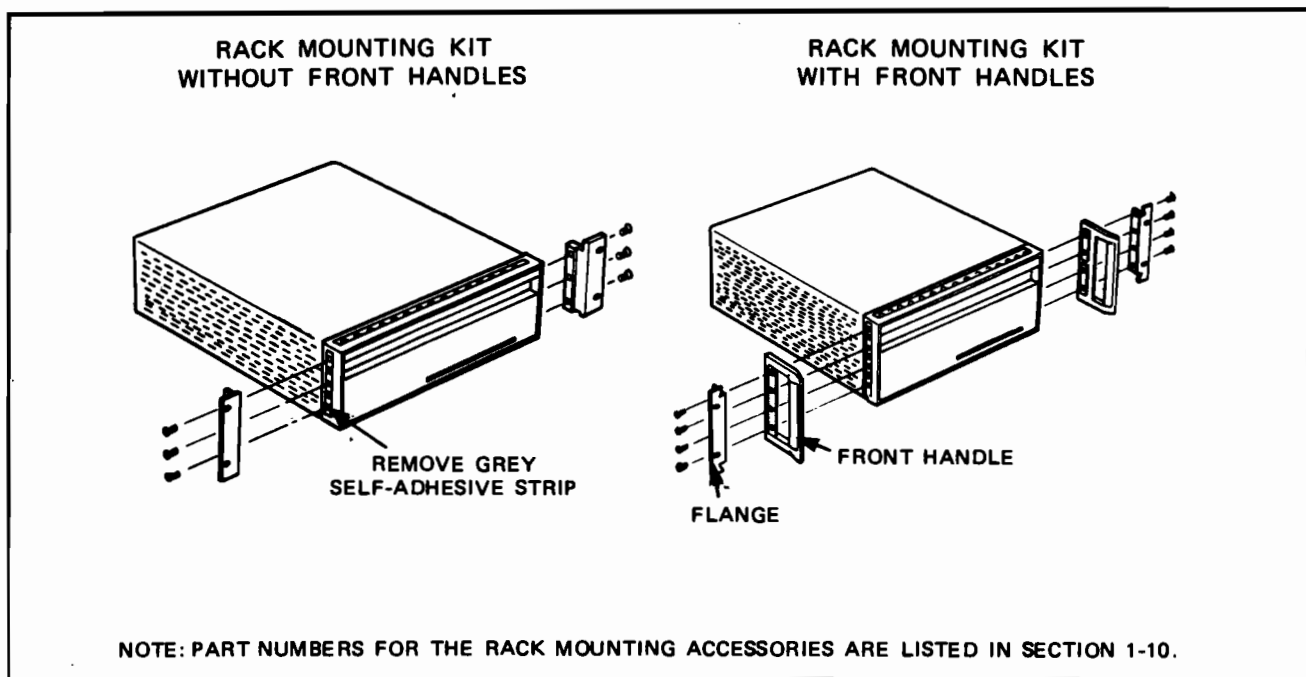

Figure 4-3 HP2334A Plus Rack Mounting Accessories
- 1) At the front right-hand and left-hand sides of the HP2334A Plus are vertical strips of gray colored self-adhesive plastic, see Figure 4-3. Use a blunt edged instrument (e.g. flat-blade screwdriver) to carefully lift off and remove the two plastic strips, thereby exposing the screw holes.
- 3) If handles are not required, mount each side flange directly over the screw holes and secure them in position with the supplied screws (see Figure 4-3).